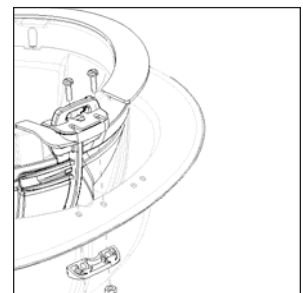

Figure 4
10. Place the impact cap assembly into the helmet and assemble as shown. Fasten only one side at a time. See Figure 4.